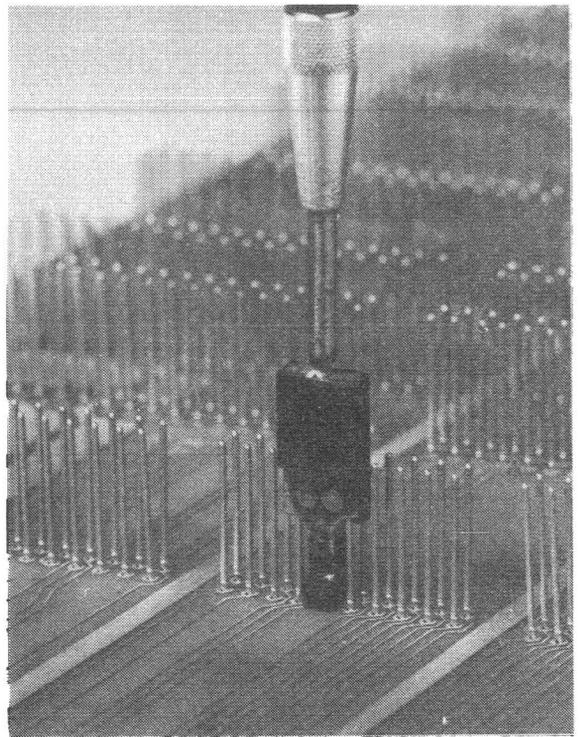

FIGURE 8
- 5.29 About two or three strokes with the tool should be enough to insert the pin properly. The end of the head of the insertion tool should rest against the back of the backplane (see Figure 8).